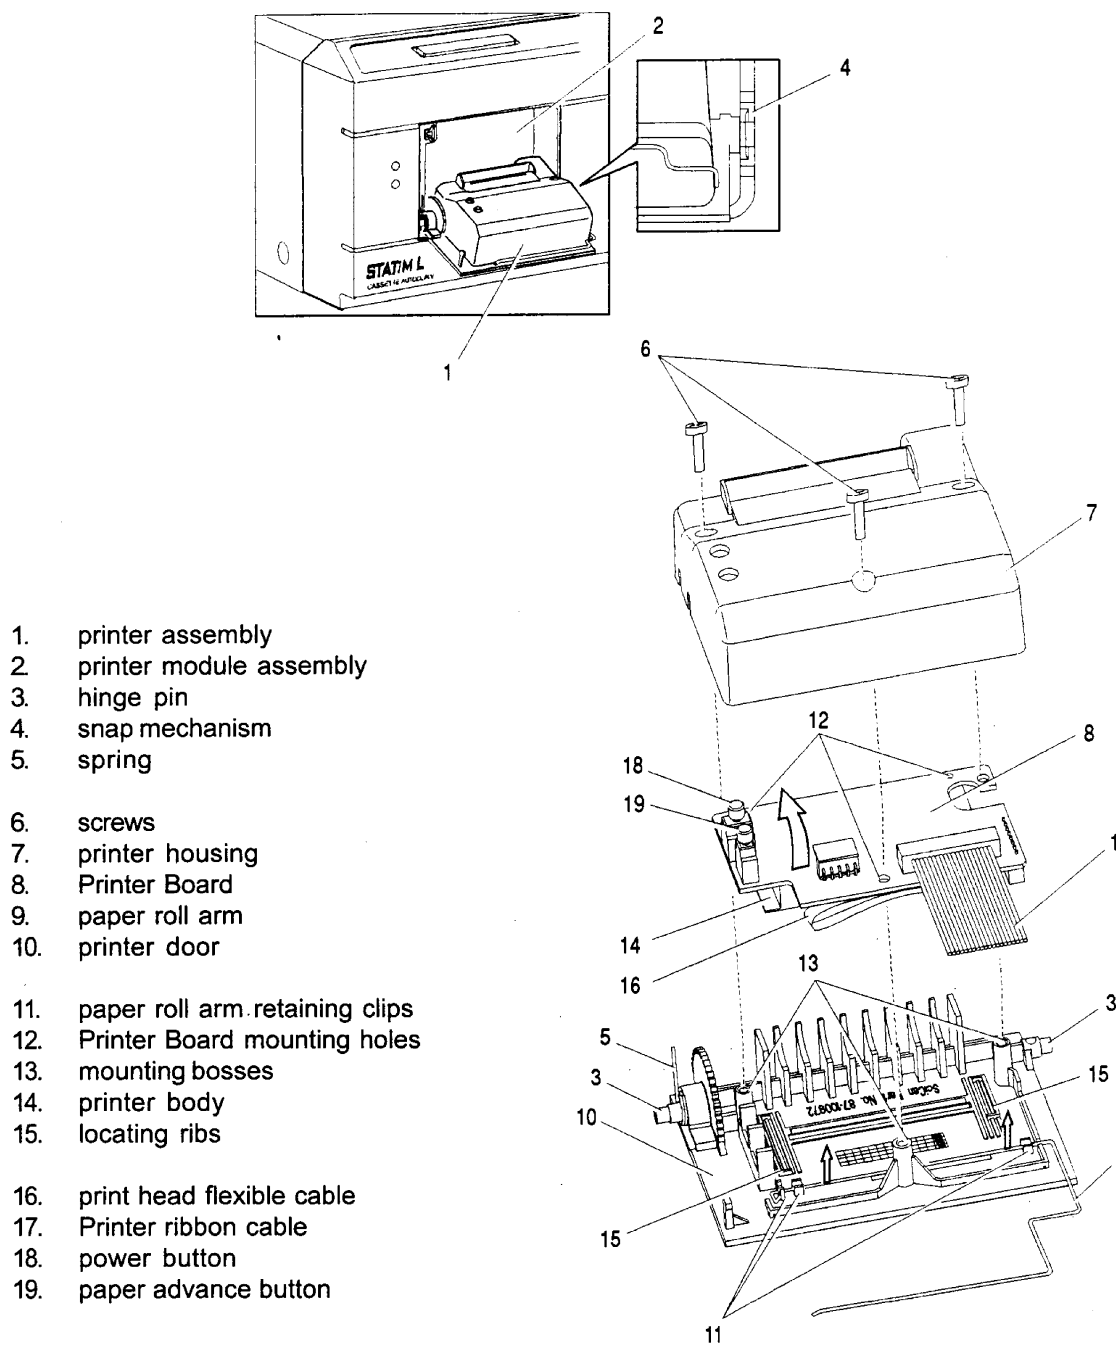

Figure 2
2. To adjust and test print quality, turn the unit power switch ON. Open the printer module and enable the printer by pressing the printer power button (item 18, Figure 2). Start and then quickly stop a cycle. Doing so causes an error message to be printed. While the error message is printing, adjust the pot (R21).
To remove the printer assembly (1) from the printer module assembly (2), follow these steps (see Figure 2):
To replace the printer, follow these steps (see Figure 2):